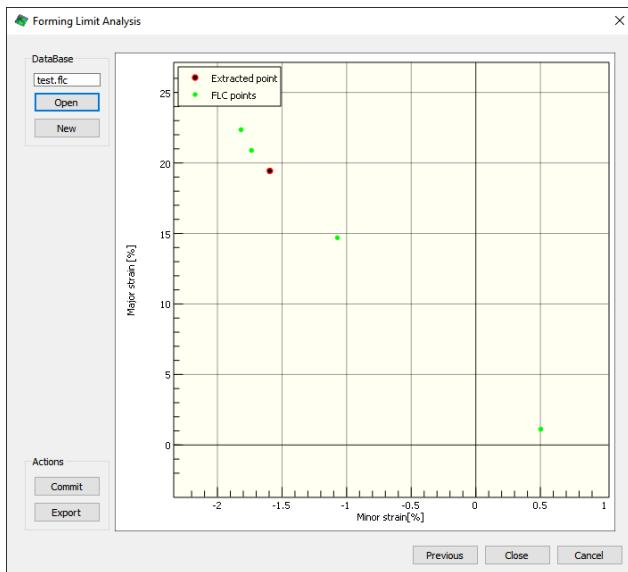

Figure 4.
7. After the user clicks **Next**, the e_1 & e_2 values at the selected failure point are shown in the FLD as displayed in figure 4. The software automatically loads a database (*.flc file) from the parent directory if it exists. It is recommended that all tests for the FLC are kept as sibling directories of a common parent directory in which the database is stored.
9. After all the forming tests are performed, the user will end up with one common graph that includes all the data points as shown in figure 4.